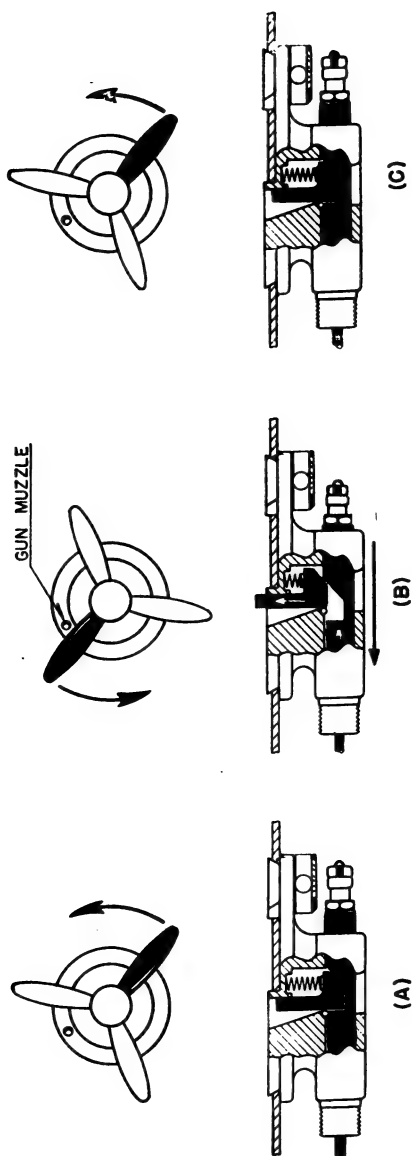

Figure 33.—Trigger motor action in relation to propeller.
Figure 33 shows the complete cycle of operation. Think of these three pictures as a "slow-motion" movie of the operation of the trigger motor with the TOP cut away. In (A) the trigger motor slide is within the trigger motor housing, since the blade of the propeller with which the rotation of the cam lobe is synchronized is not yet in a firing position. In (B) the blade has just passed the gun muzzle, and it is time for the gun to be fired. So the cam follower roller is up on the lobe of the cam, and the trigger motor plunger is pulled forward. This, as you can see, has driven the trigger motor slide inside the gun, thus tripping the sear and releasing the firing pin.